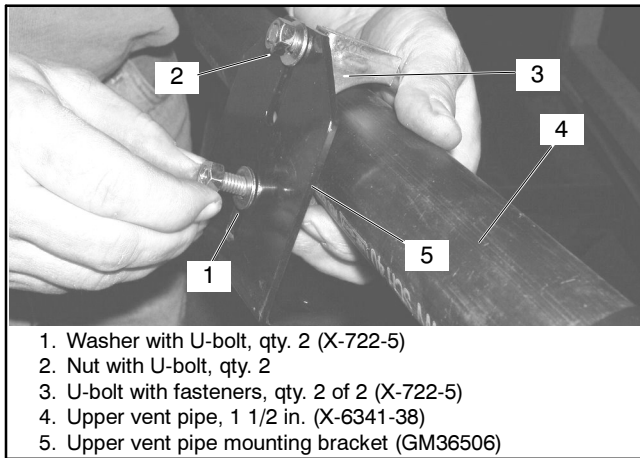

Figure 18 Upper Vent Pipe Mounting Bracket
2.3.4 Discard saddle on U-bolt X-722-5 and attach U-bolt with fasteners to upper vent pipe mounting bracket GM36056. Slide second 1 1/2 in. upper vent pipe X-6341-38 through U-bolt. Hand tighten fasteners attached to U-bolt. See Figure 18.
- 2.3.14 Slide through U-bolt X-722-5 over 1 1/2 in. upper vent pipe X-6341-38 and thru slots of upper vent pipe support bracket GM36056. Attach fasteners to ends of U-bolts. See Figure 18.